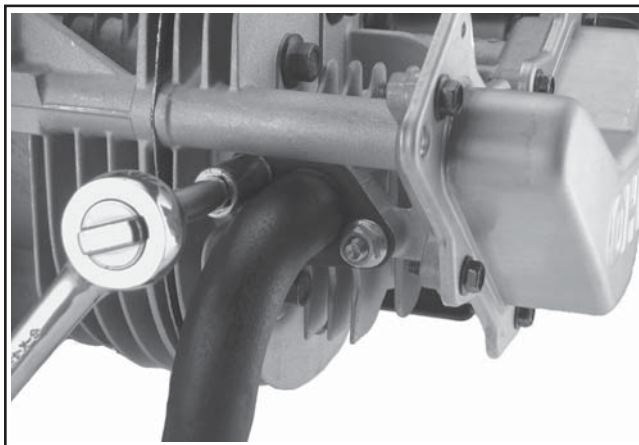

Figure 8-4. Removing Exhaust Flange Nuts (Stud Design).
1. Remove the hex flange nuts or 5/16-18 capscrews attaching the muffler or exhaust system to the engine. Remove any attached brackets. See Figure 8-4.